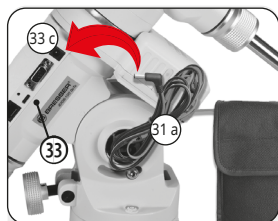

Fig. 17: Connecting the battery pack
3. Insert the DC plug of the DC power cable (31 a) into the DC socket (33 c) of the connection panel (33) (Fig. 17).